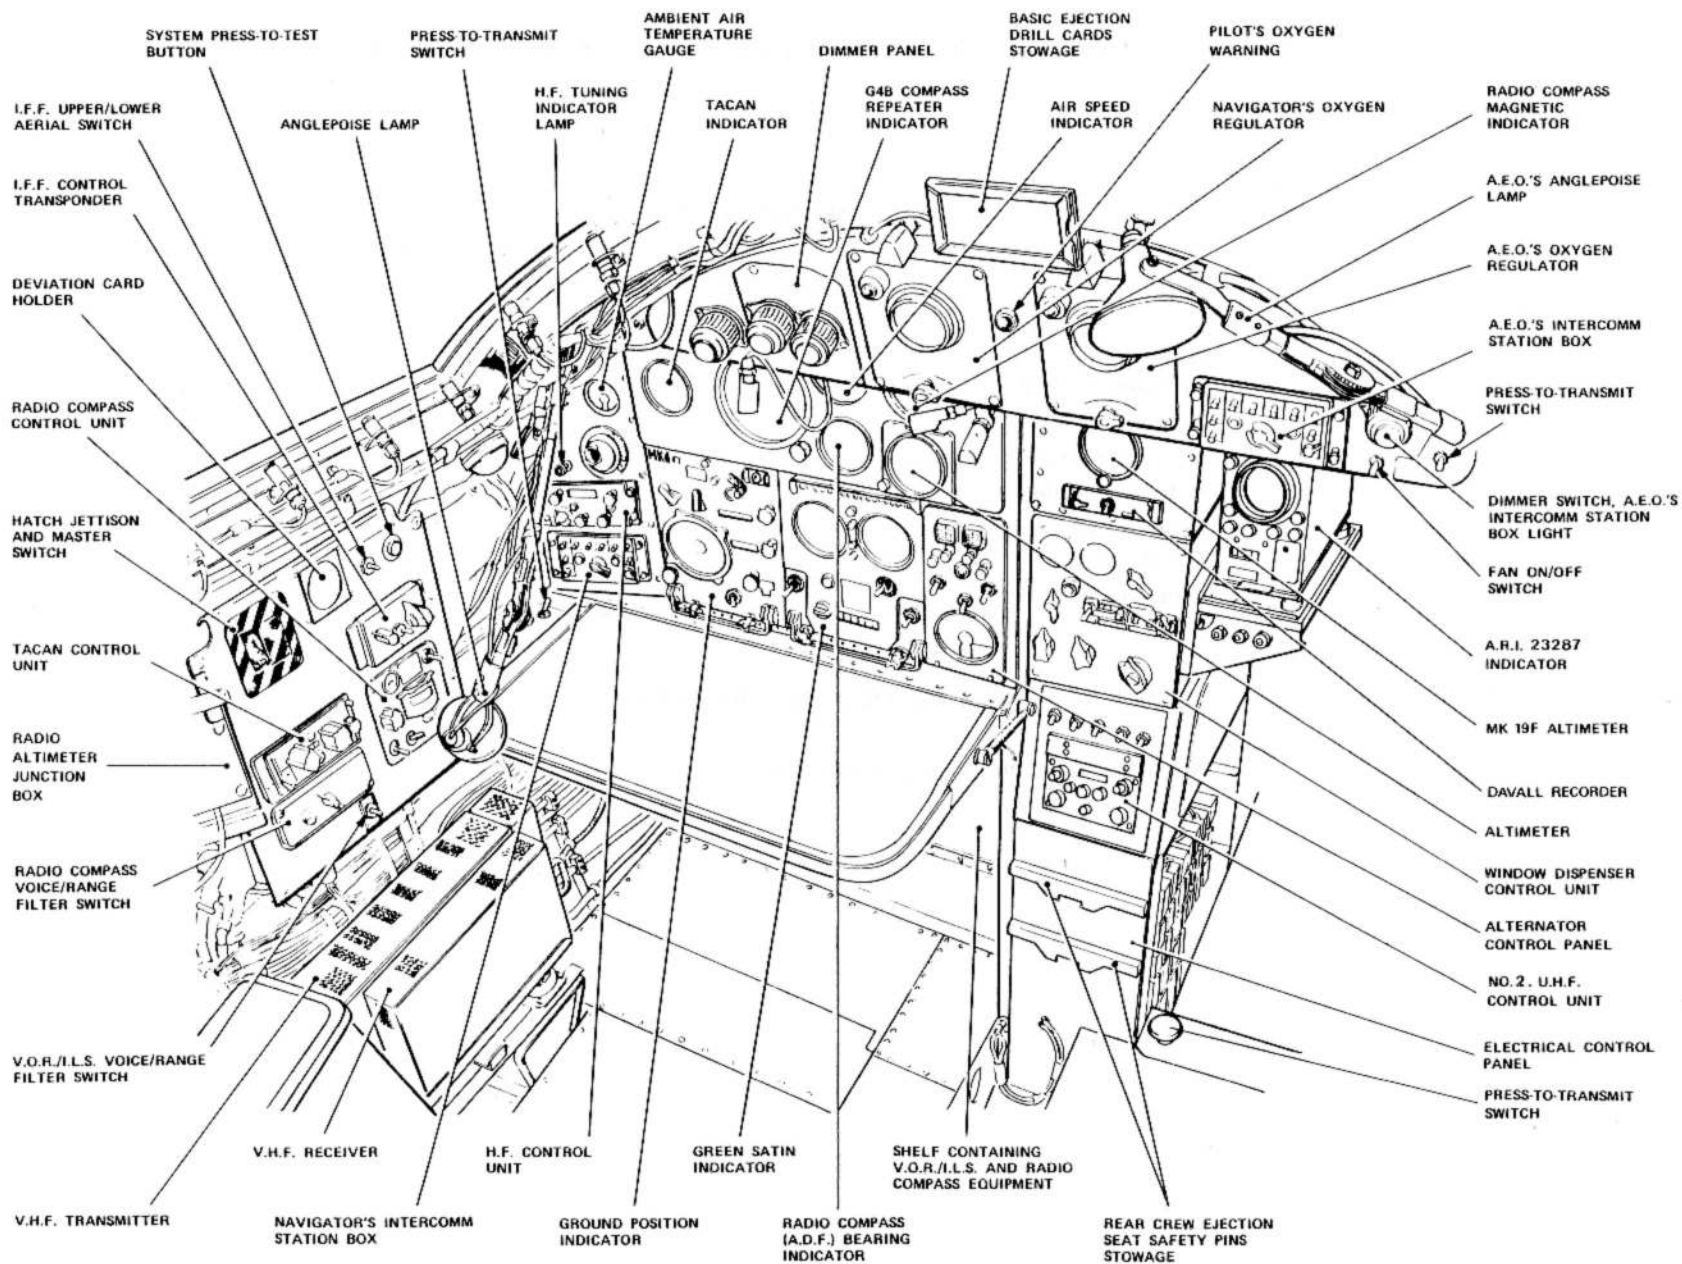

FIG.1. NAVIGATOR'S STATION (FRONT AND PORT SIDE)
**Navigator's station (*fig.1*)**
5. The A.E.O.'s seat is at the rear of the cabin on the starboard side, the floor level here being higher than at the navigator's position. A panel on the starboard wall carries various instruments and controls, conveniently placed for the A.E.O.'s right hand. Other controls normally operated by the A.E.O. are situated at the right-hand side of the navigator's table. A foot operated press-to-transmit switch is provided to supplement the existing switch (*fig.1*).
**Electrical control panel (E.C.P.) (*fig.1*)**